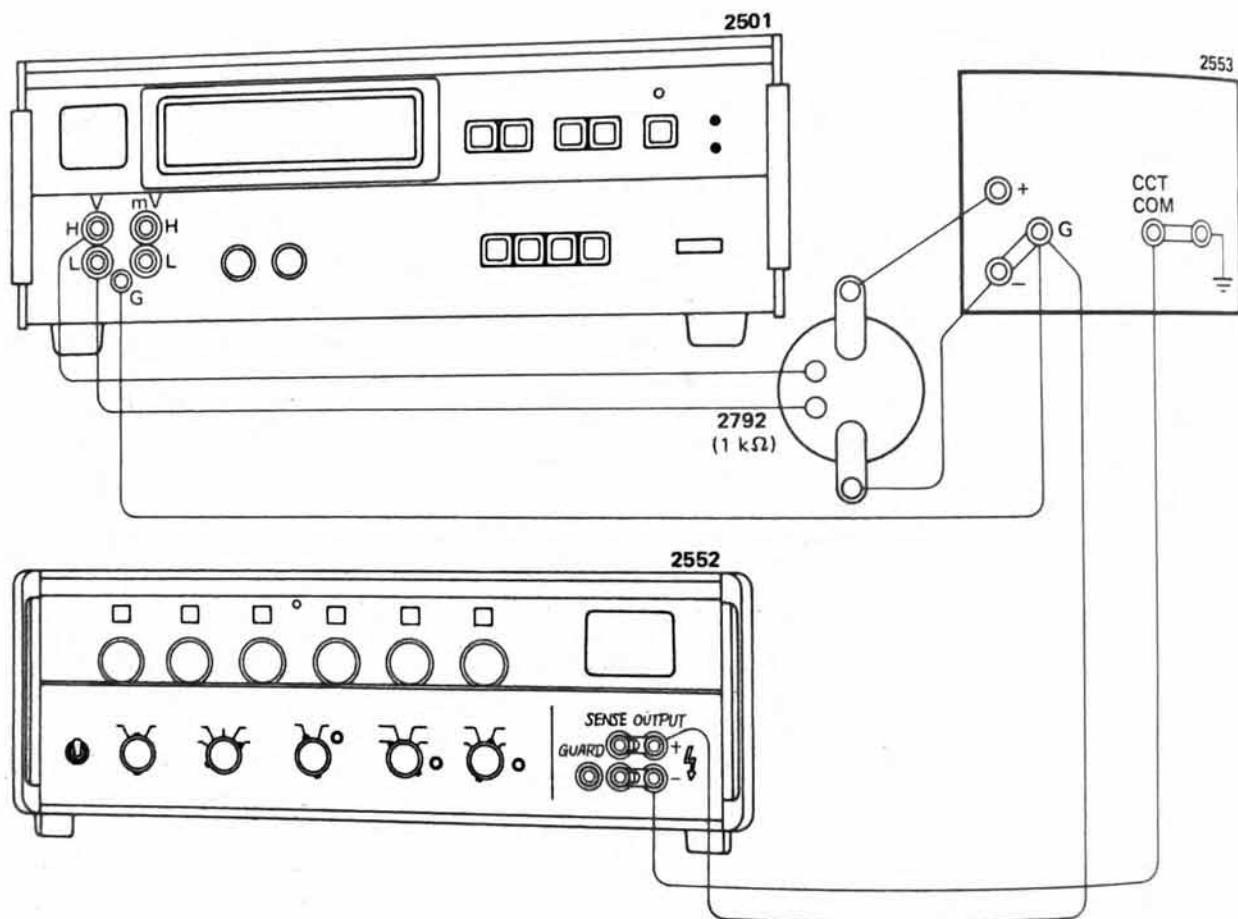

**Figure 2-9. Setup for AC CMRR Inspection as Voltage Standard.**
- a) Connect this instrument, oscilloscope and Type 2858 as shown in Figure 2-9.